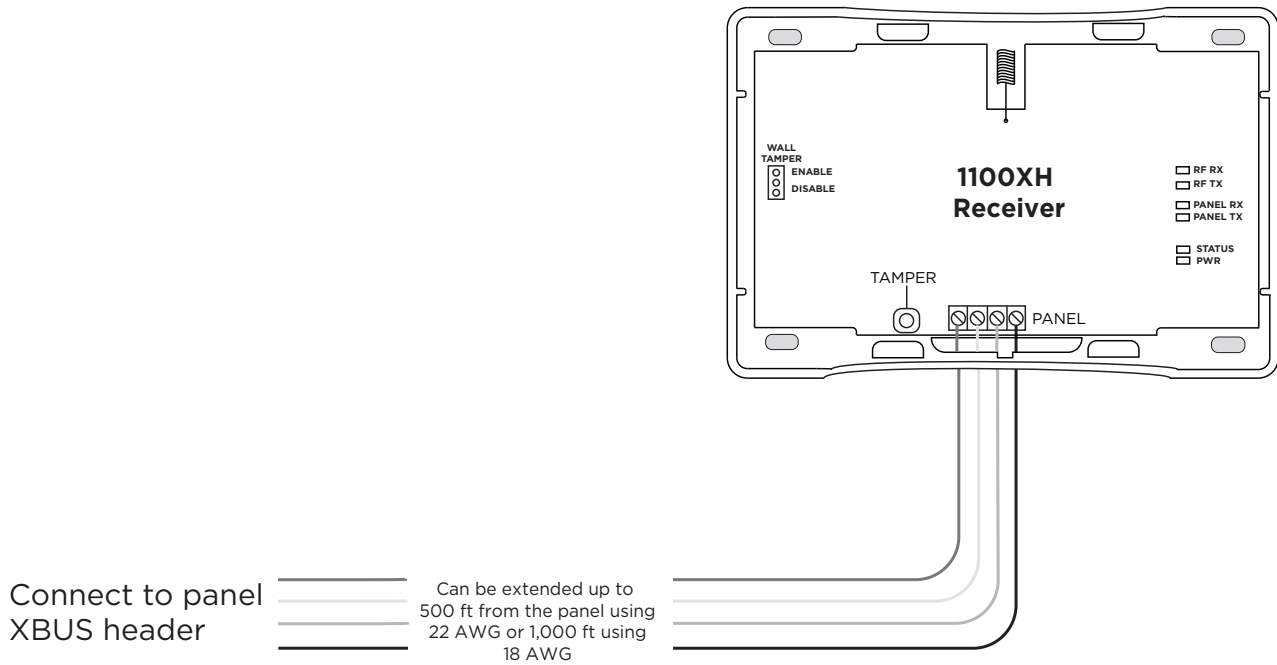

Figure 2: Wire the 1100X to the Panel
2. Connect the other end of the wires to the XBUS on the panel. See Figure 2.